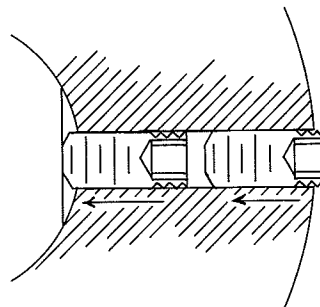

FIG. 2-4
- c. Replace the single setscrew with two setscrews, one driven in on top of the other to act like a locknut (Fig. 2-4).